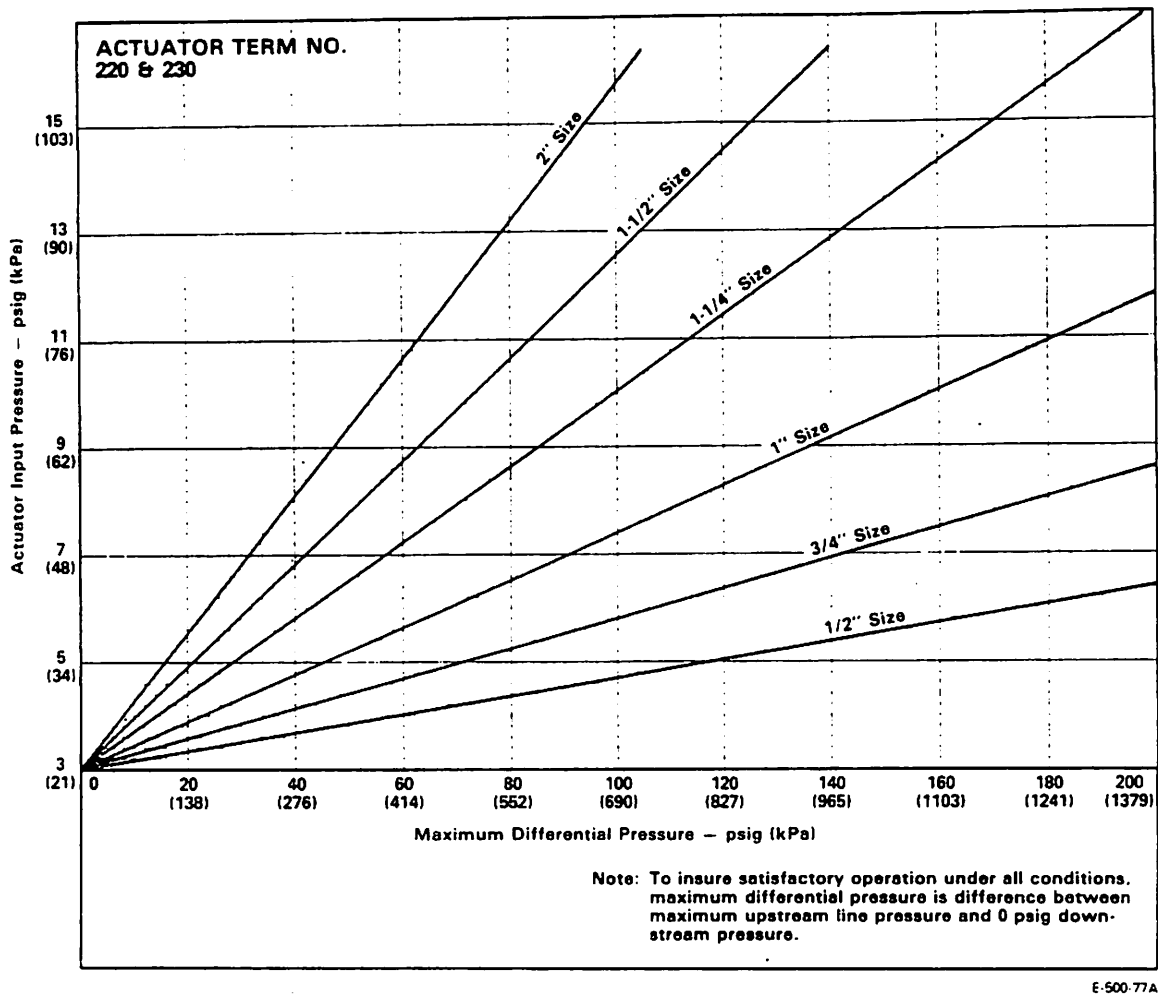

Figure 29a. Actuator Input Pressure Versus Maximum Differential Pressure for Termination Nos. 220, 230 (20 Sq. In. Std)
1. Determine input pressure at which stem should just begin to move from Figures 29a, 29b or 29c. Select the figure which covers the actuator termination number shown on the data plate under serial number.
1. Determine input pressure at which stem just begins to move from Figures 29a, 29b, or 29c. Select the figure which covers the actuator termination number shown on data plate under serial number.